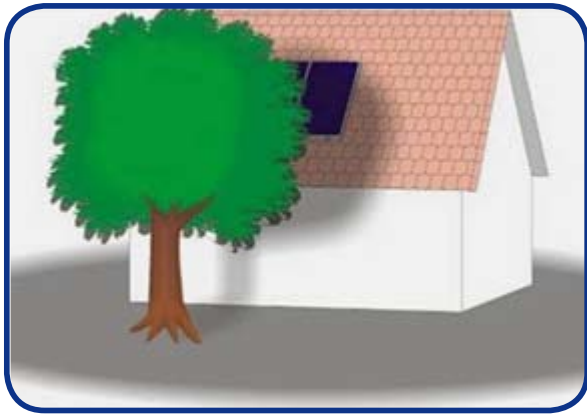

Figure 8 – Tree Shading Solar Panel on Roof
1. If your house or apartment were equipped with solar panels to help power the home, where would you place the panels so that they were never subjected to shade as in Figure 8 below? If they are of the proper grade level have them use Trigonometry to figure out how far a solar panel needs to be placed from trees, chimneys, taller buildings next door, etc.